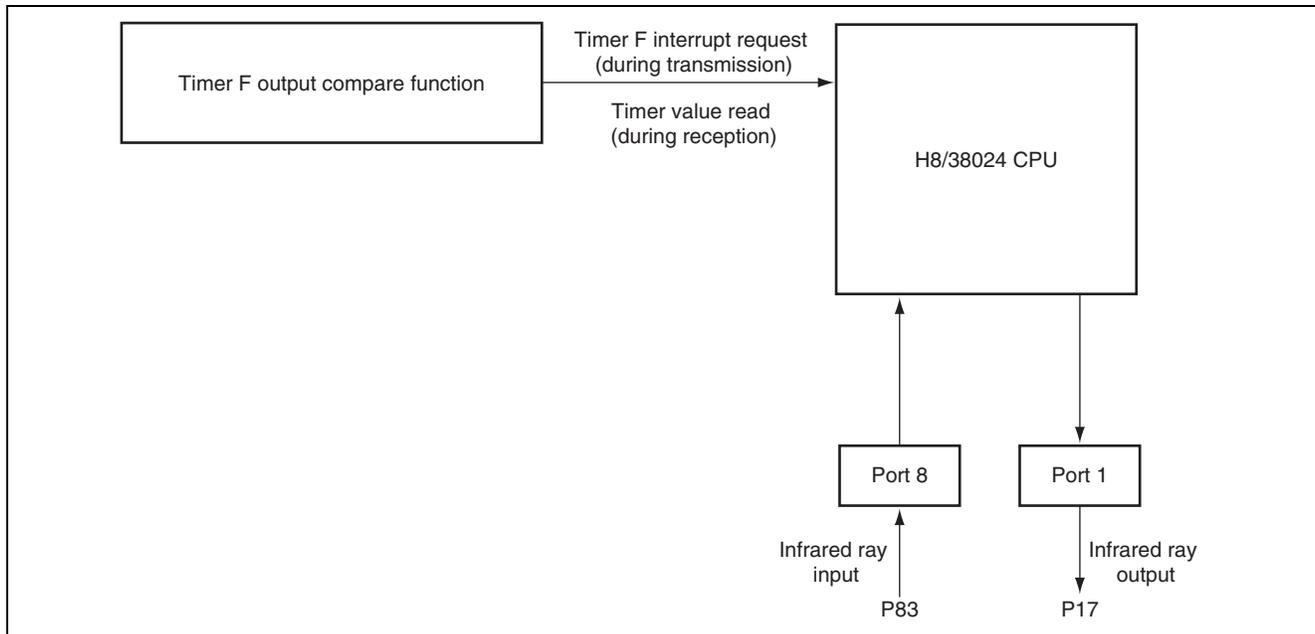

**Figure 1.3 Block Diagram of Infrared Light Transceiver and Example of Application Circuit**
- C. Figure 1.3 shows the block diagram of the infrared light transceiver and an example of the application circuit.